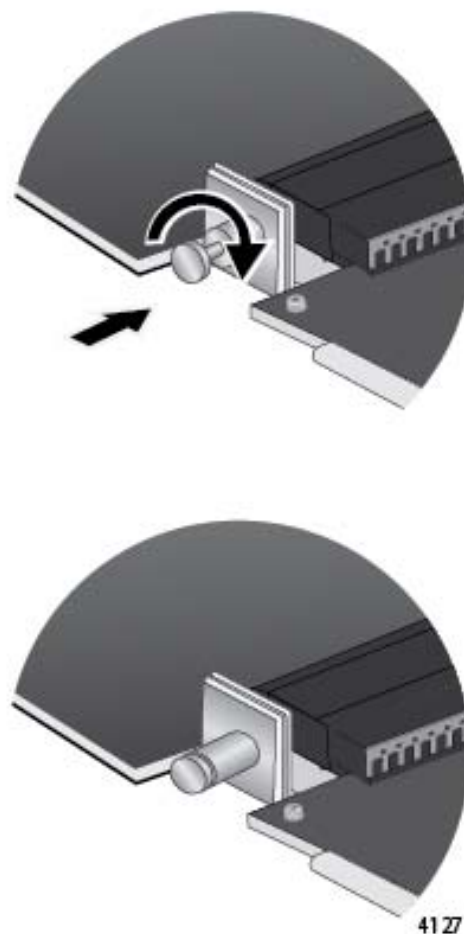

Figure 89. Releasing the Retaining Pin
11. Turn the retaining pin on the side of the line card one quarter turn to release it. Refer to Figure 89 on page 148.